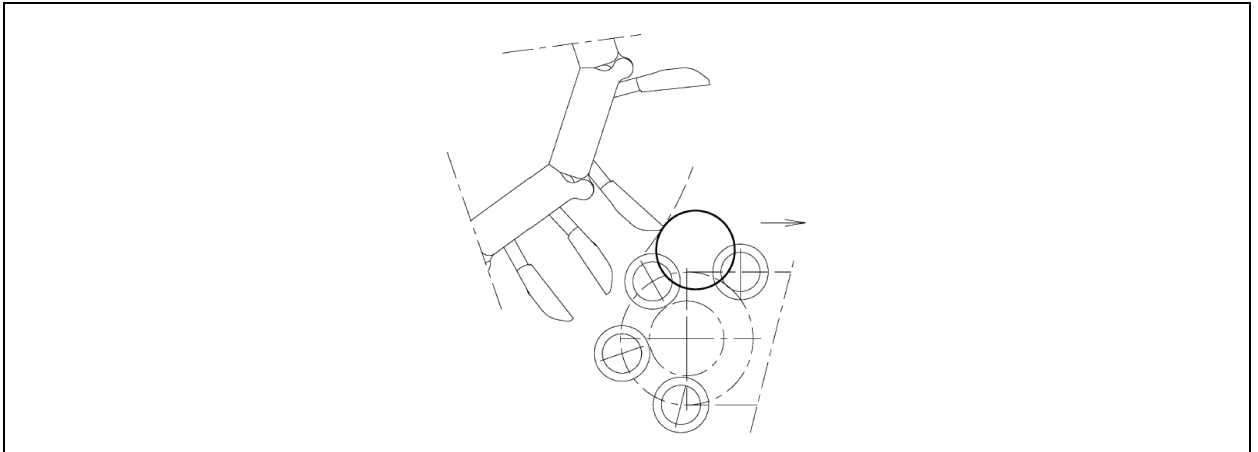

Fig. 13 - Fine adjustment of turning section grippers
- 4 Move the same chain-wheels (2) to adjust the timing of the small rollers such that the container just contacts the large adjustment eggs as it turns away, see fig. 13. (fine adjustment)